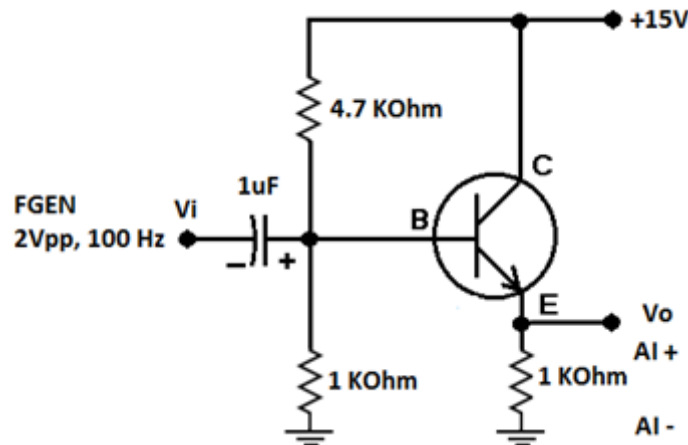

Figure 10.4: Common Collector Amplifier
1. Connect the circuit as shown in the figure 10.4.